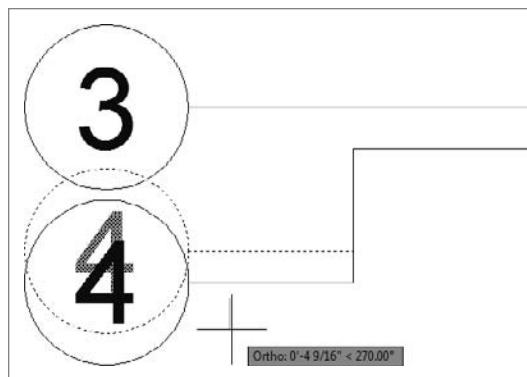

FIGURE 9.11 Use the STRETCH command to relocate the grid symbol.
-  13. If the circles overlap, use the STRETCH command (see Figure 9.11) to stretch the short horizontal and vertical lines and the circle away from the long, straight gridlines.